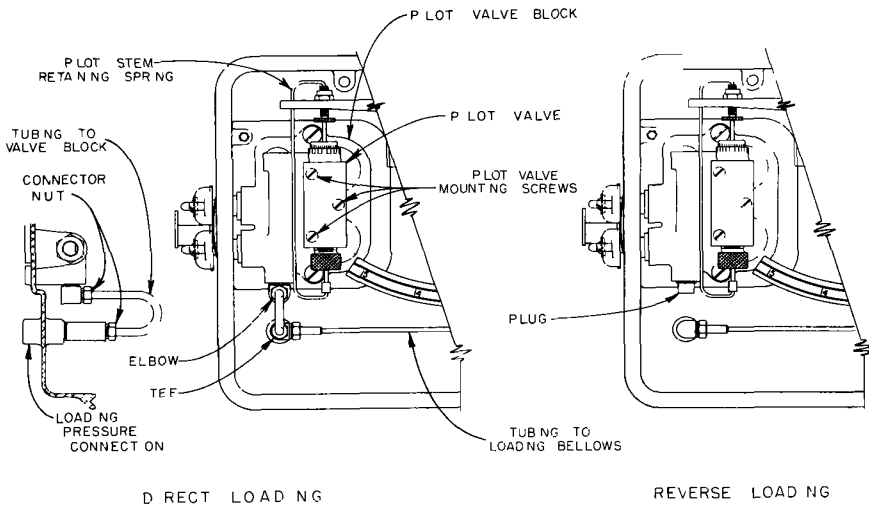

FIGURE 4 Positioner Internal Tubing for Direct and Reverse Loading
a. Refer to Figure 4, "Direct Loading" Remove tubing to valve block, elbow, and tee
b Assemble elbow into connection from which tee was removed. Connect loading bellows tubing to elbow. Insert a 1/8 inch plug in connection from which elbow was removed. Tubing arrangement should look like Figure 4, Reverse Loading.
d Remove pilot stem retaining spring and pilot stem. Remove three pilot valve mounting screws and separate pilot valve from pilot valve block (Figure 4).